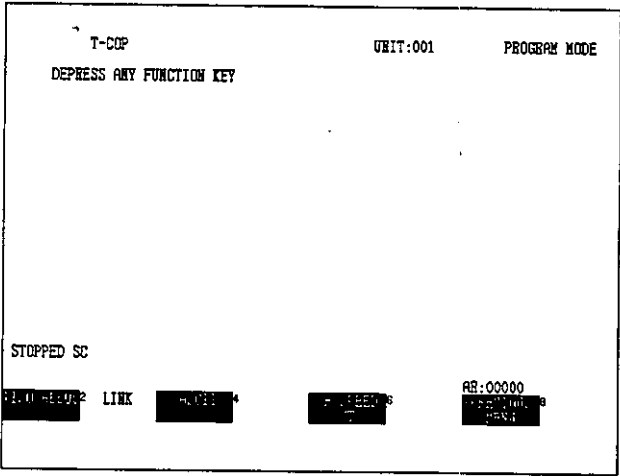

Figure 6.46
- (1) The Attach Operation is not required when the PLC is already online.
- (2) There is no need to select a station number for channel 1, which has no stations.
- (3) After checking the desired screen, press Previous Menu and the screen will return to the one shown in *Figure 6.46*.
- 5) Select I/O Allocation. The screen shown in *Figure 6.46* will be displayed.